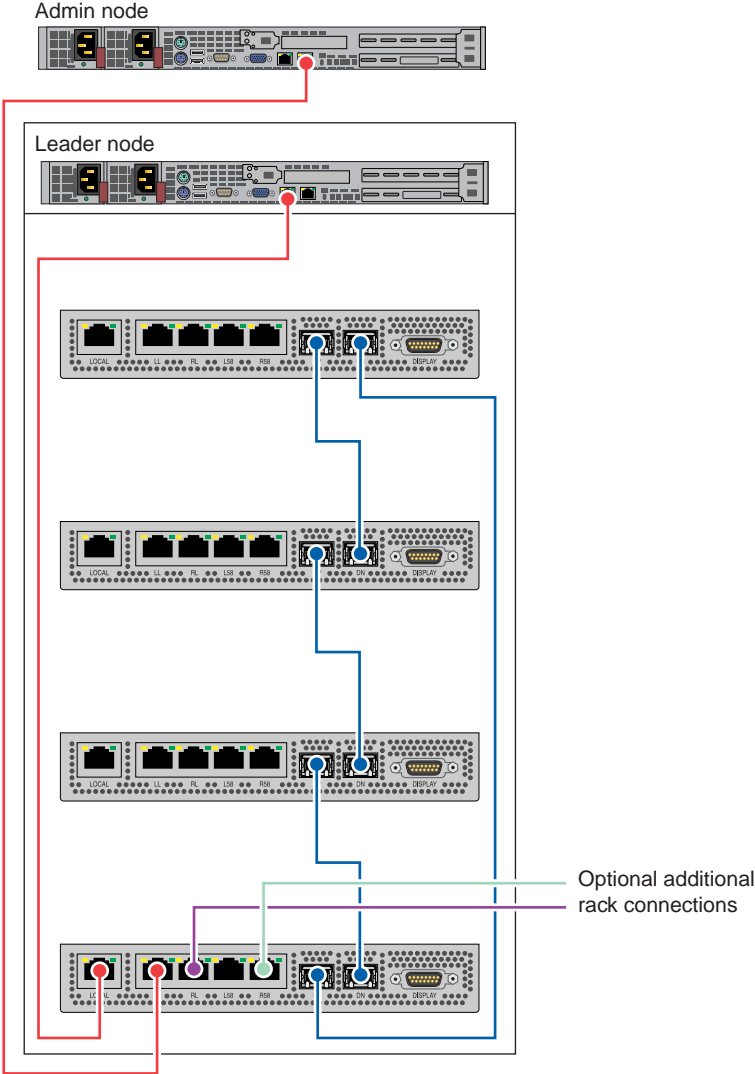

Figure 5-2 Admin/Leader to CMC Cable Examples
2. Disconnect both power cables, see Figure 5-2 on page 213 for server connection locations.